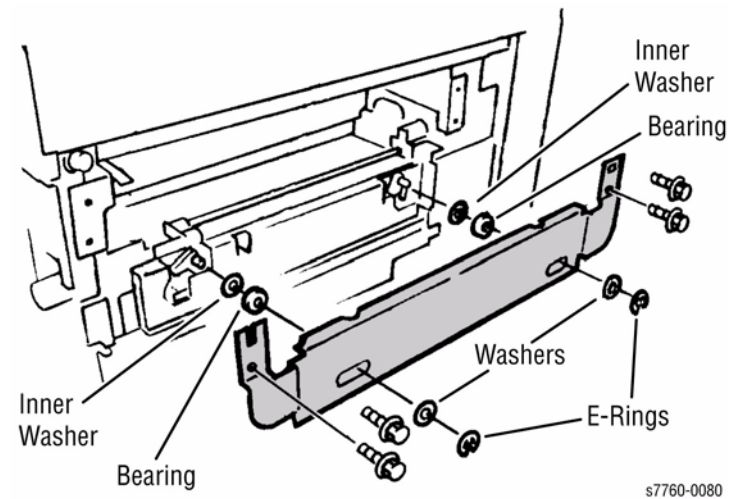

Figure 1 Removing Lift Bracket
11. Removing the Lift Bracket (Figure 1).